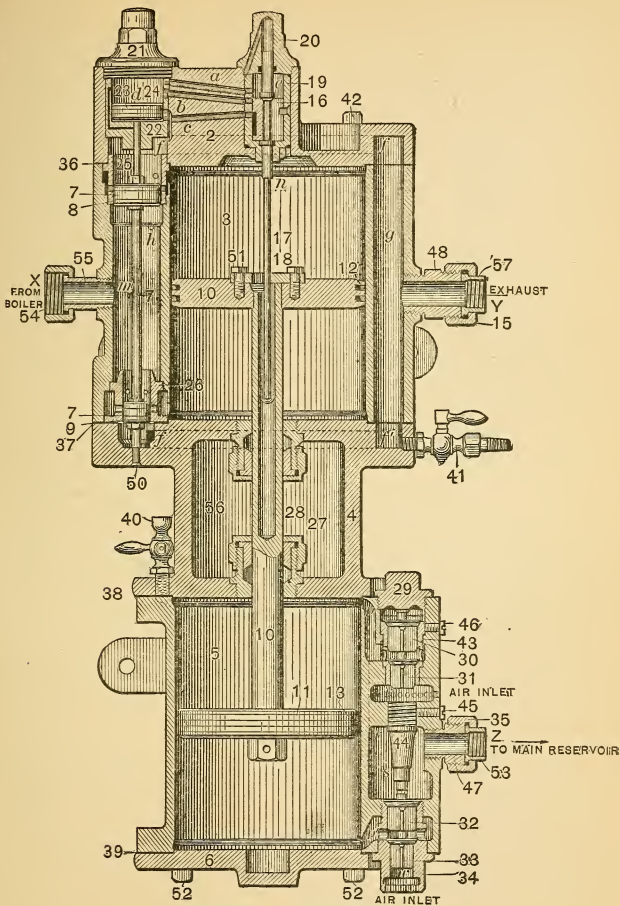

FIG. 21.—8-INCH PUMP.
Piston 23 (Fig. 21), called the reversing piston, is not found in the 9½-inch pump (Plate B).
*Q.* As the steam enters the pump at X (Fig. 21), where is it free to pass?
*Q. The pistons 7 (Fig. 21) are of unequal size, and the upper piston 7 and piston 23 are the same size. What happens when steam enters chambers m and e with the reversing slide valve in its present position?*
A. Steam passes through small ports in bushing 26 (Fig. 21), just above the small piston 7, underneath piston 10, forcing it up. At the same time the top end of the steam cylinder is connected with the atmosphere through the upper ports of bushing 25, the port *f*, as shown by the dotted lines, down through *g* and out at *Y*.
*Q. With no pressure acting down on piston 23 (Fig. 21), what happens?*
A. Loose packing rings in the main steam piston 10, piston 23, or pistons 7, a bad seat on the reversing slide valve, or the top of stem 17 being a loose fit in the cap nut 20 (Fig. 21).